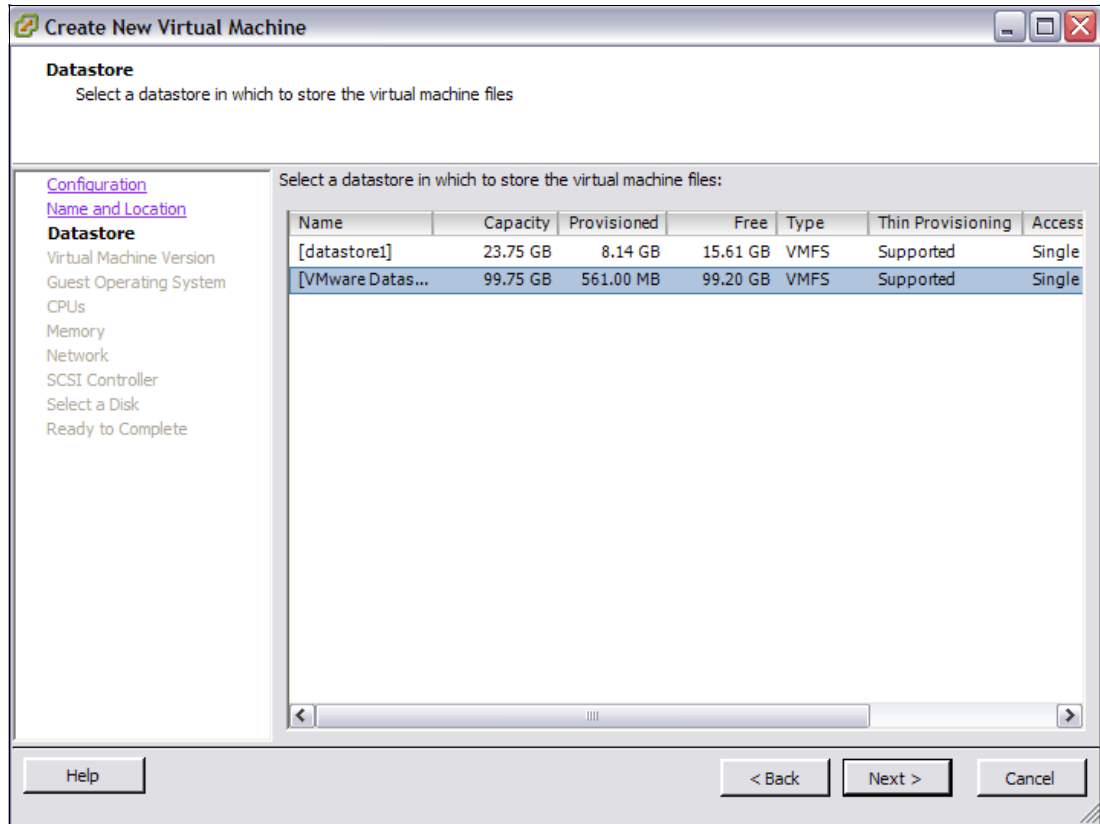

Figure 22-75 Datastore VMFS Partition
5. Select the Datastore VMFS partition where the Guest files reside (note that all configuration files including the disk file(s) are residing in that location), which can be the VM\_Datastore partition created in the earlier steps as shown in Figure 22-75 on page 707. Click **Next**.